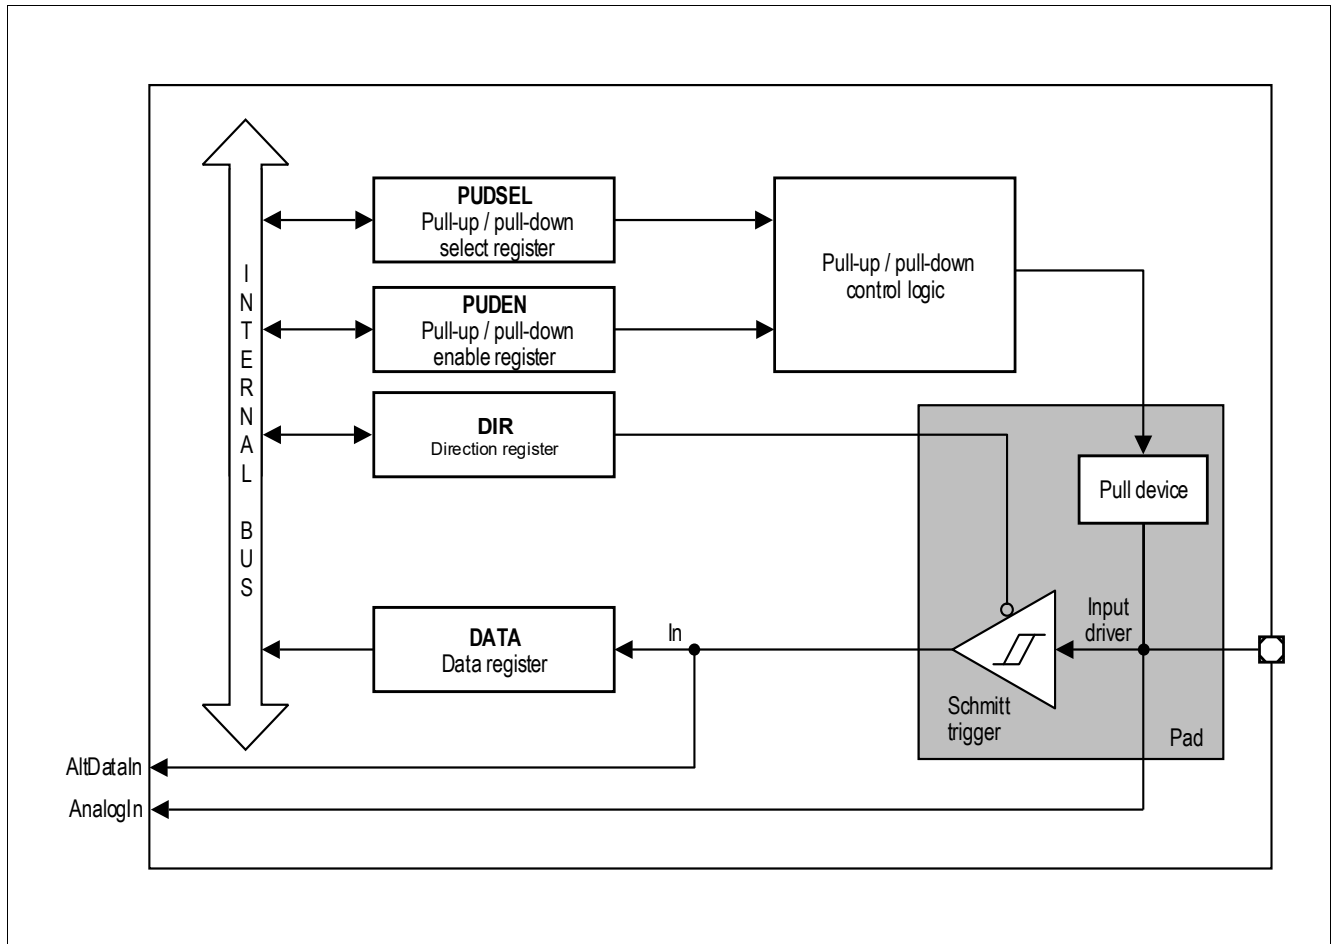

**Figure 16** General structure of a bidirectional port (P0, P1)
**Figure 16** shows the block diagram of a TLE9869QXA20 bidirectional port pin. Each port pin is equipped with a number of control and data bits, thus enabling very flexible usage of the pin. By defining the contents of the control register, each individual pin can be configured as an input or an output. The user can also configure each pin as an open-drain pin with or without an internal pull-up/pull-down.